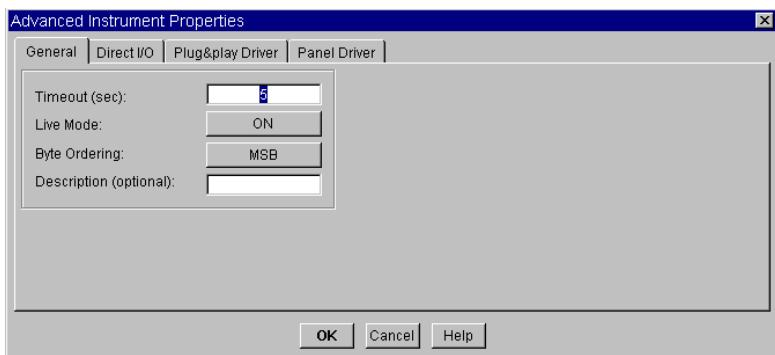

Figure 3-8. The Advanced Instrument Properties Dialog
3.	Change the name to scope , leave all the other defaults as they are, and click Advanced The Advanced Instrument Properties dialog box appears as shown in Figure 3-8.